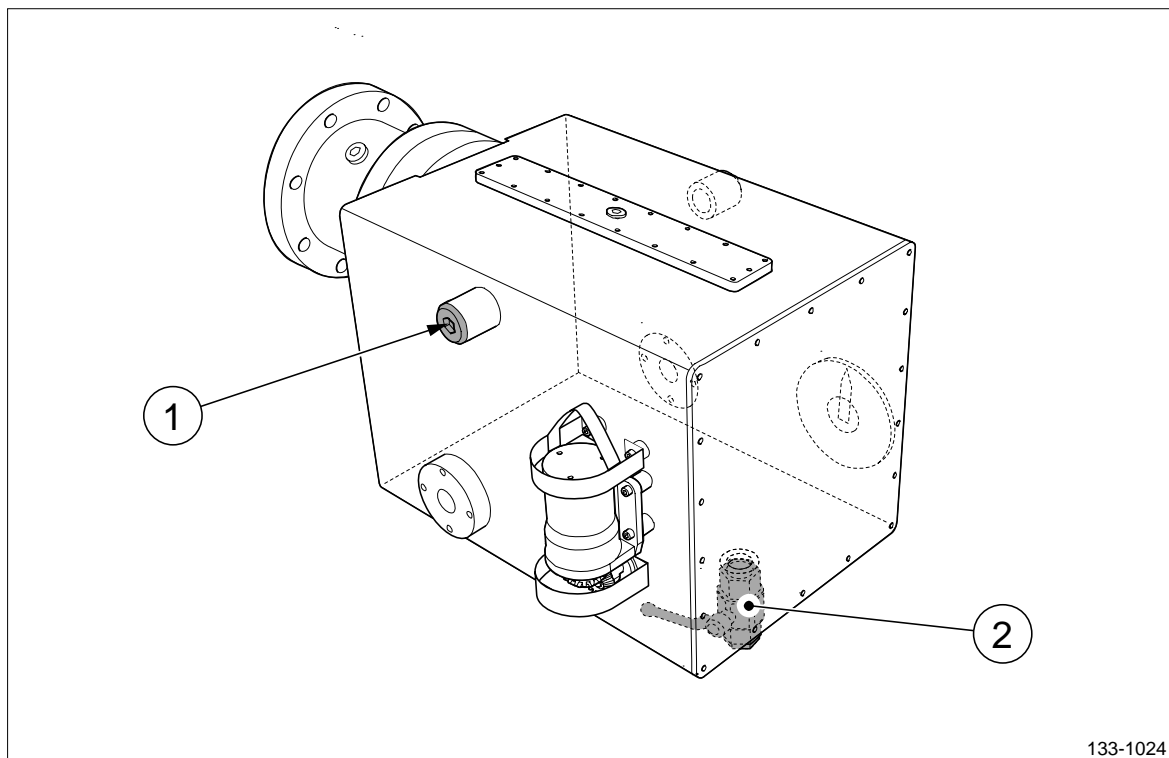

Figure 8 The OD-box drain valve and R plug.
5. Place a container under the drain valve T on the OD-box (pos 2, figure 8).